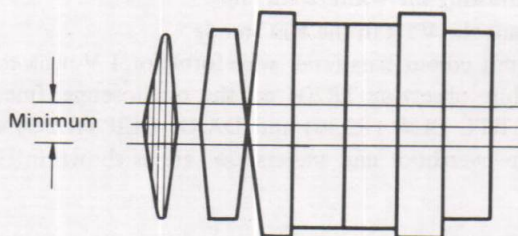

Figure 71
- ① Play back the alignment tape.
- ② Using the external trigger TP208, observe TP506 on the oscilloscope, and then adjust resistor R560 (Carrier Balance) so that the width of the playback waveform becomes a minimum as shown in Fig. 71.
**(7) ADJUSTING THE AUDIO CIRCUIT.**
- ① Fully connect the input/output connectors including the audio input/output and the video input.
- ② Insert a test tape (VMAE) into the cassette compartment.